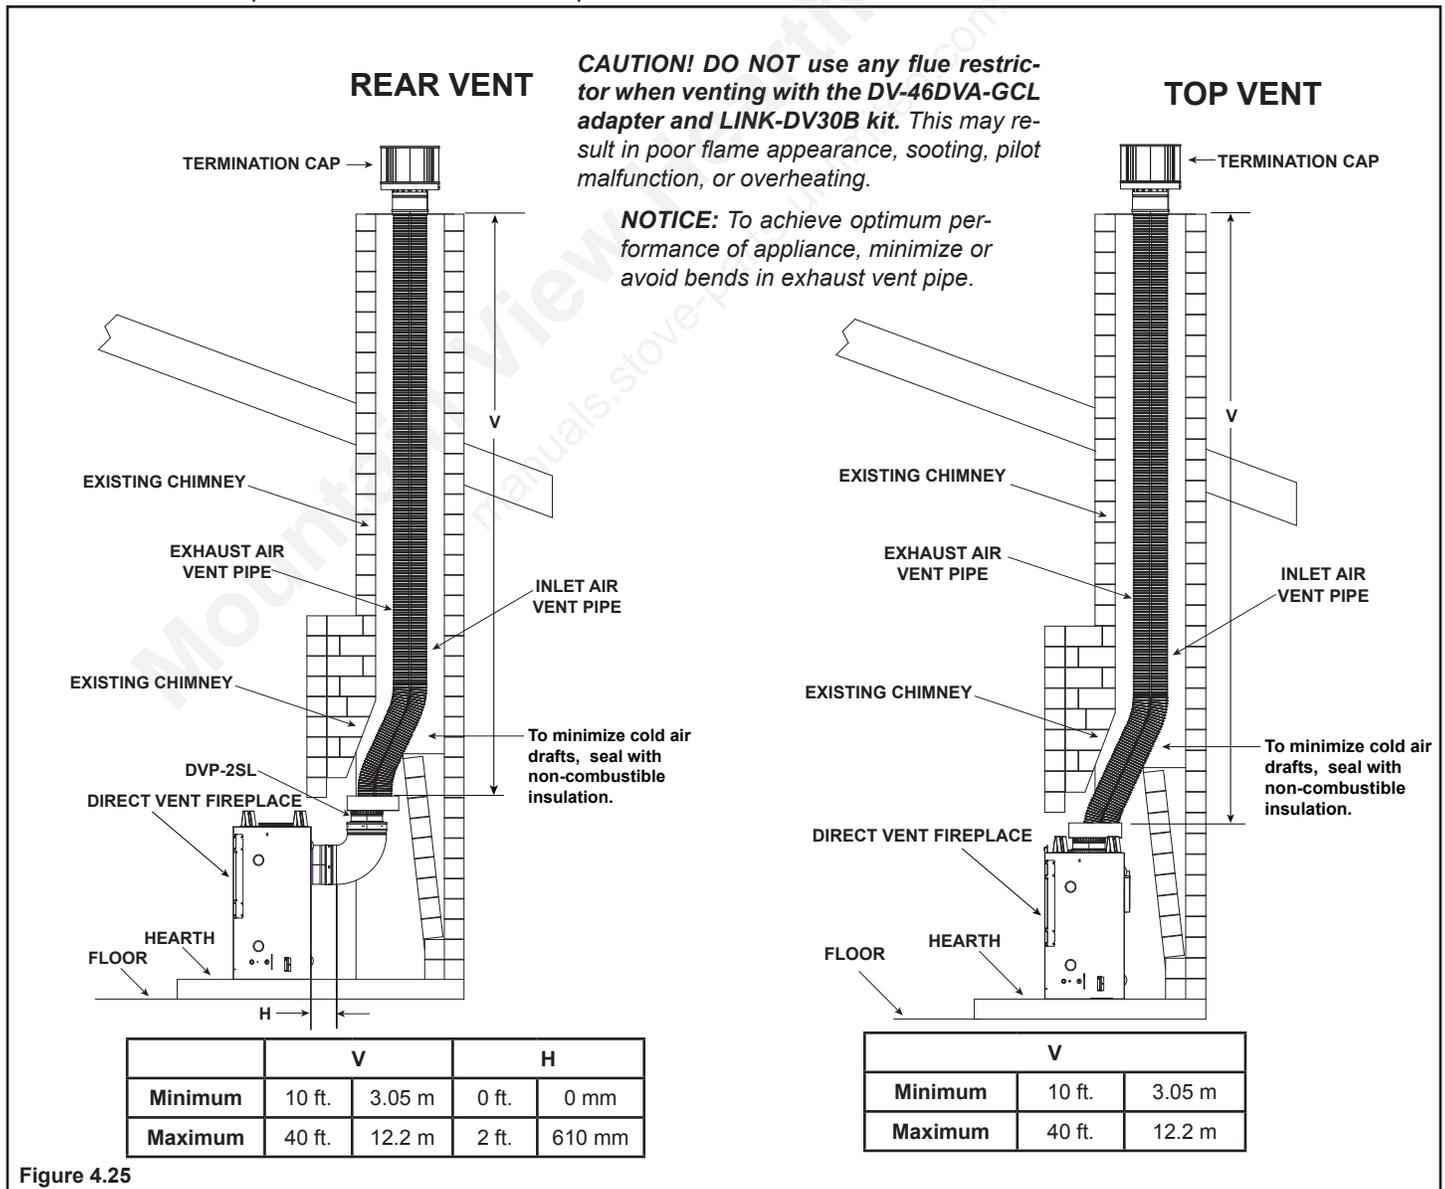

Figure 4.25
- Remove top seal cap and insulation if equipped. See Section 11, "Appliance Setup." Attach the DVP-2SL to the 8 inch starting collar. Follow installation instructions included with DVP-2SL kit. Attach the DV-46DVA-GCL adapter to the appliance starting collar with 3-1/2 in. self-tapping screws. See Figure 4.25.
- Remove the rear seal cap and insulation if equipped. Connect the DVP-2SL adapter to the vertically positioned elbow. Follow installation instructions included with DVP-2SL kit. Secure DV-46DVA-GCL adapter to DVP-2SL with 3-1/2 in. self-tapping screws. See Figure 4.25.